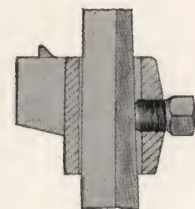

Fig. 1
- 1 Wedge-shaped supporting standards for both desk and chair, making it impossible for the adjustment to loosen or work down. The details of this wedge adjustment are shown in figures 1 and 2.